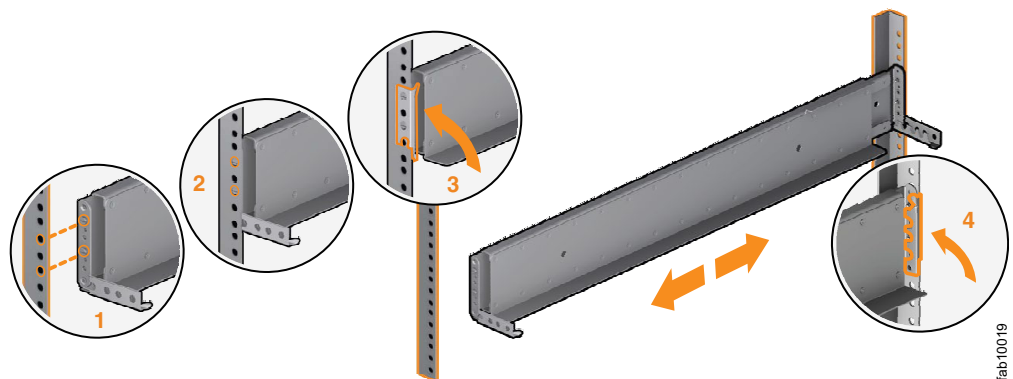

Figure 17. Closing the hinge brackets
9. Close the rear hinge bracket to secure the rail to the rack cabinet flange. (See Figure 17.)
11. Close the front hinge bracket to secure the rail to the rack cabinet flange. (See Figure 17.)